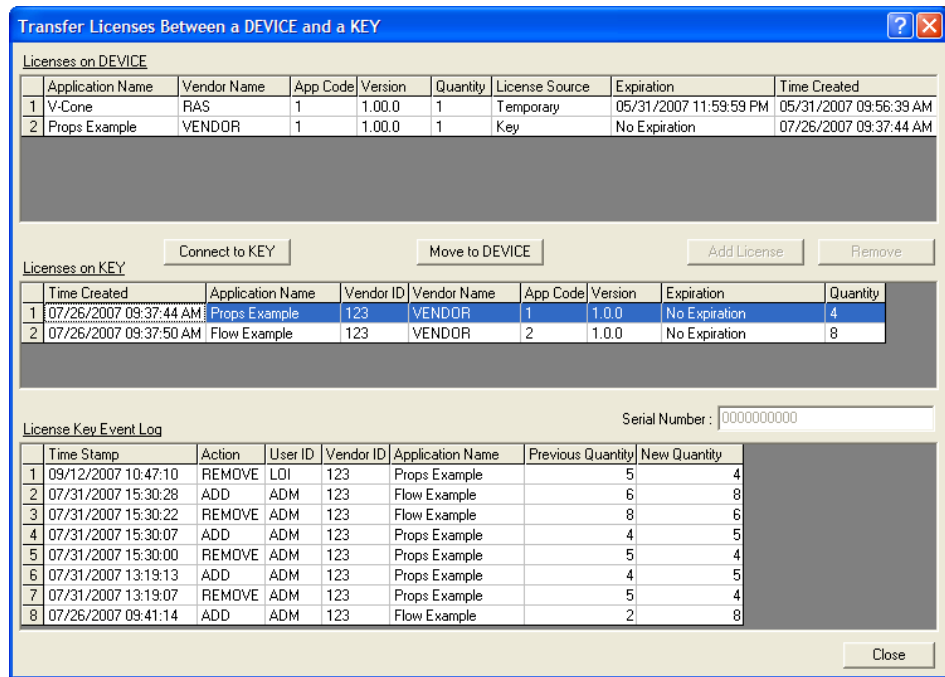

Figure 9-6. License Installed
3. Select the key-based license you want to transfer to the FB107 (**Props Example**, as shown in *Figure 9-6*).